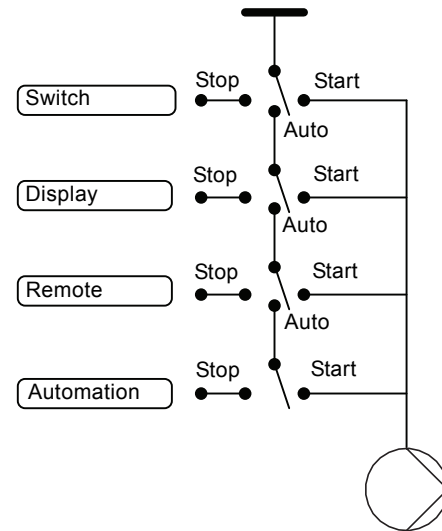

Fig. 16 Logic and priority for the pump control
- See fig. 16 for logic and priority for the pump control, and note that the control sources Switch and Display have higher priority than Remote.